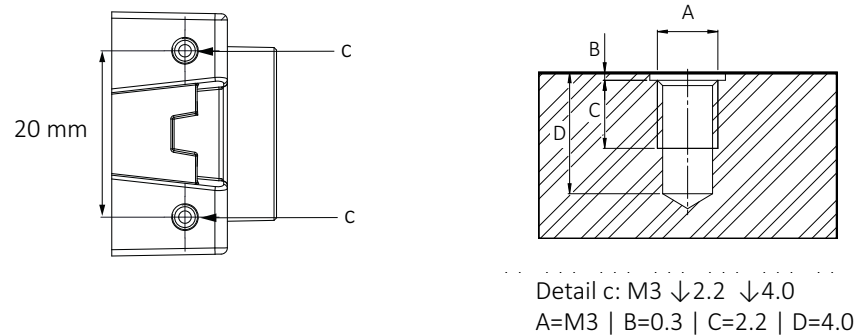

Figure 97: Top and bottom and mounting threads (c)
1. Mount the camera to the base using suitable M3 screws at 0.51 Nm maximum torque for a thread engagement (C) of 2.2 mm between screws and mounting threads, see Figure 97. For technical drawings, see Standard Alvium: Dimensions and mass on page 214.